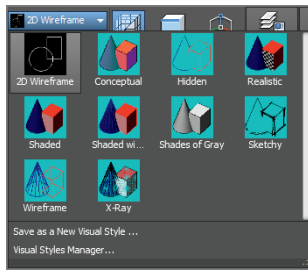

FIGURE 16.2 Selecting a visual style
2. Select the ribbon's Home tab if it is not already selected, and open the Visual Styles drop-down menu at the top of the View panel (see Figure 16.2).